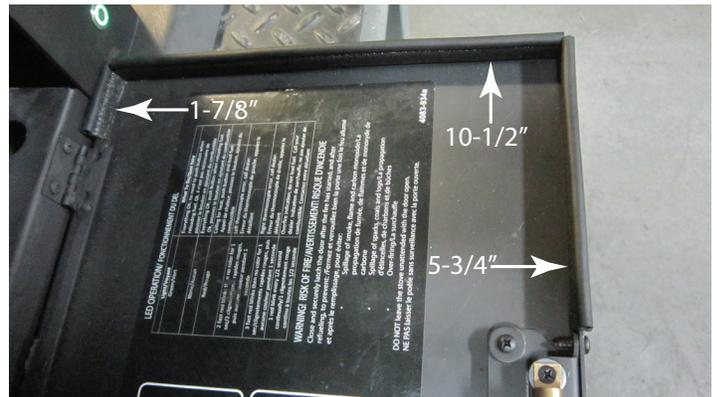

Figure 5.10
1. Using a pair of tin snips, cut (1) 1-7/8", (1) 10-1/2" and (1) 5-3/4" out of each piece of rubber gasket.
2. Slide the 6 pieces down over the edge of the door on both ends. See Figure 5.10.
4. Starting with the flat side of the gasket, stick it over the screw heads on the door hinges. Refer to Figure 5.10 and Figure 5.12 for location.